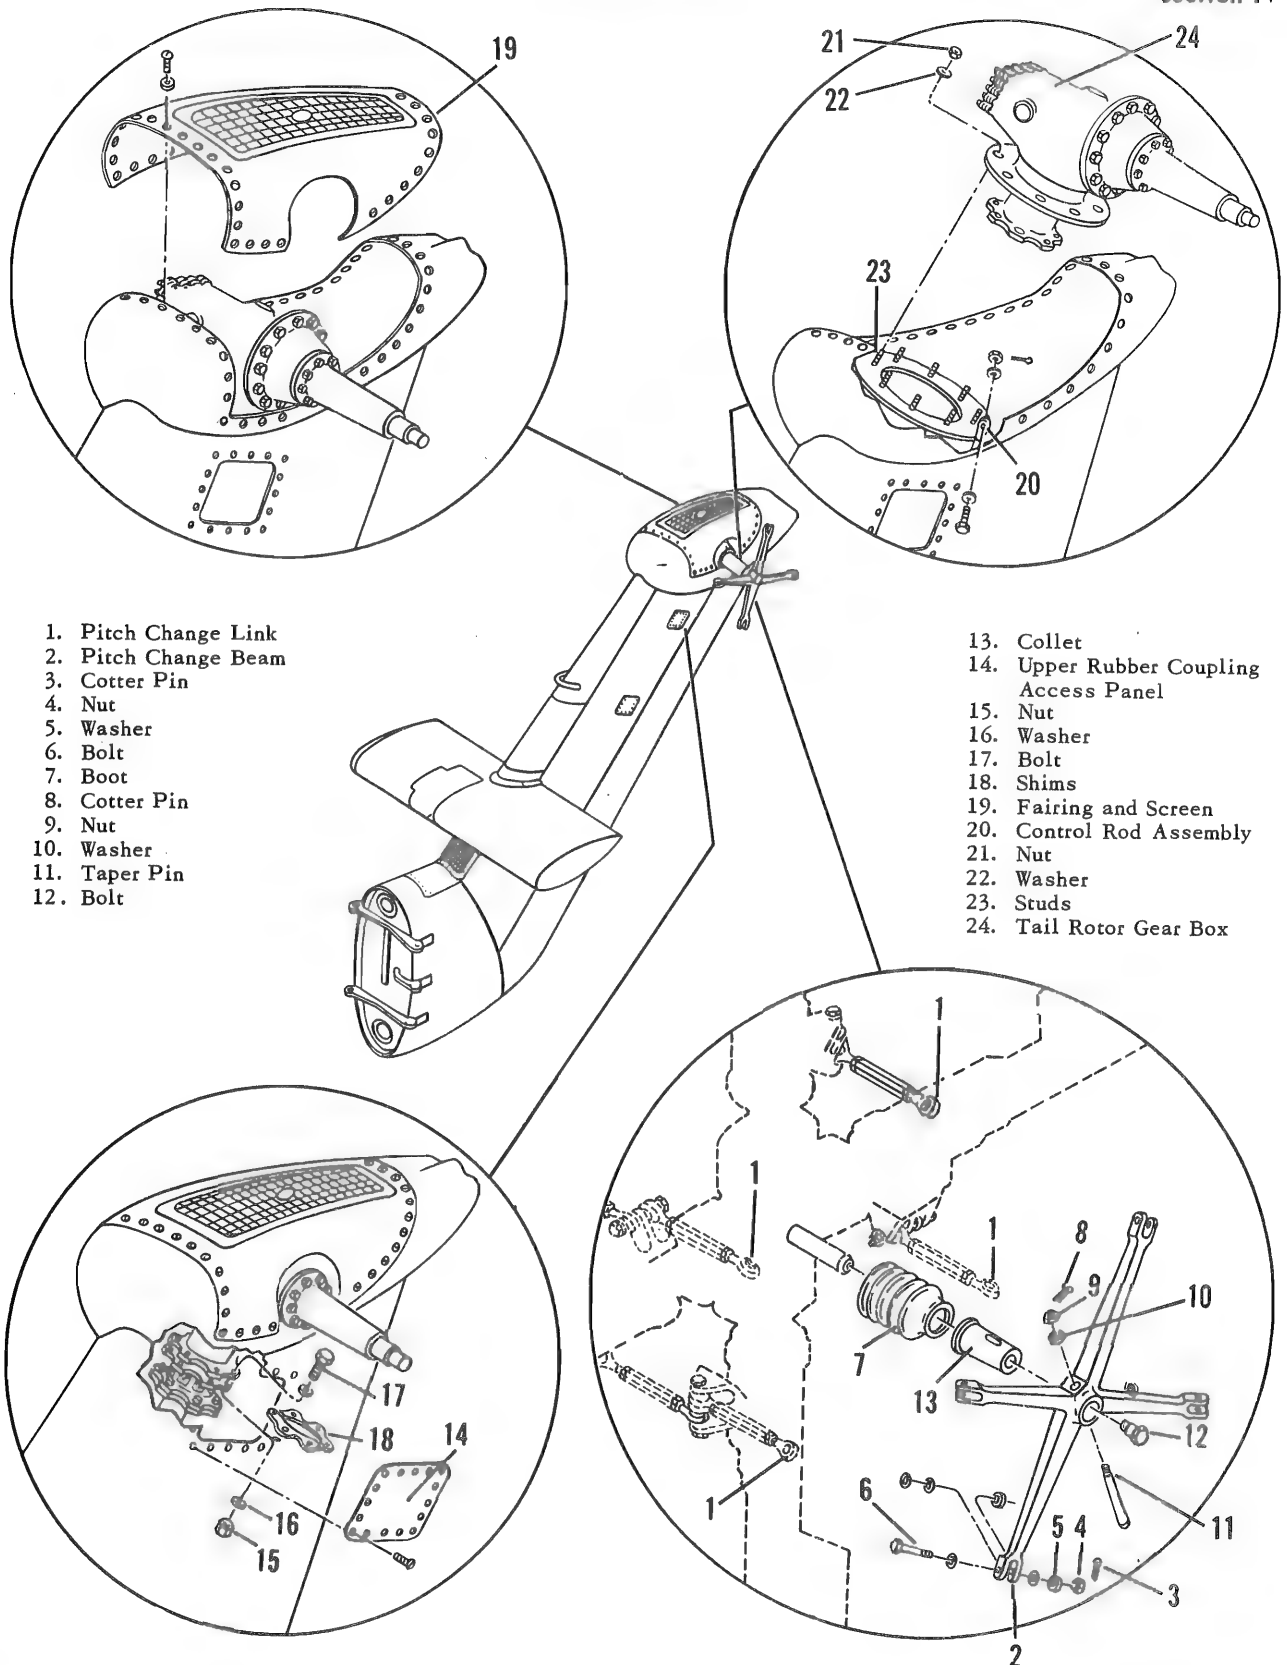

Figure 4-25. Tail Rotor Gear Box Removal
4-163. REMOVAL. (See figure 4-25.)
- a. Disconnect outboard end of each pitch change link (1, figure 4-25) from each fork of pitch change
4-169. INSTALLATION. (See figure 4-25.)
a. Install tail rotor gear box (24, figure 4-25) at bulkhead on top of pylon and secure it to studs (23) with washers (22) and nuts (21).